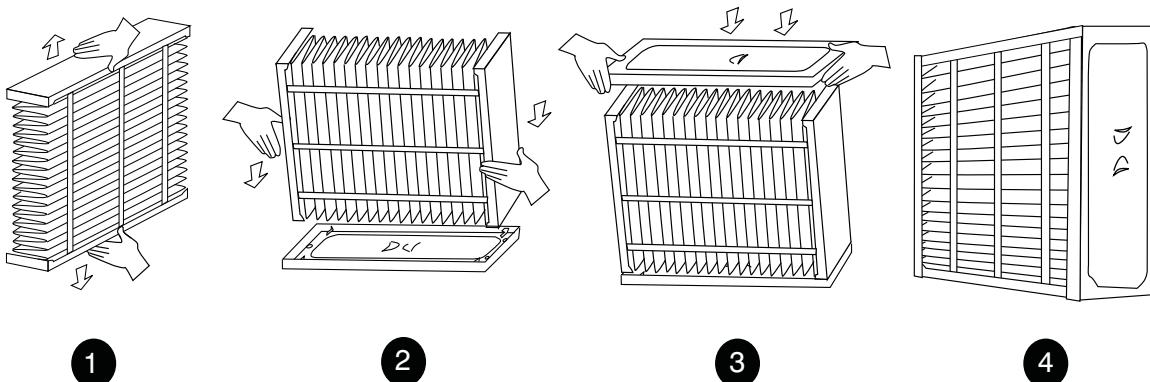

Fig. 8 – EZ-Flex Filter Assembly
7. Remove Filter from box, assemble then place in cabinet. See Fig. 8.
4. Remove new filter from box and assemble. See Fig.8.